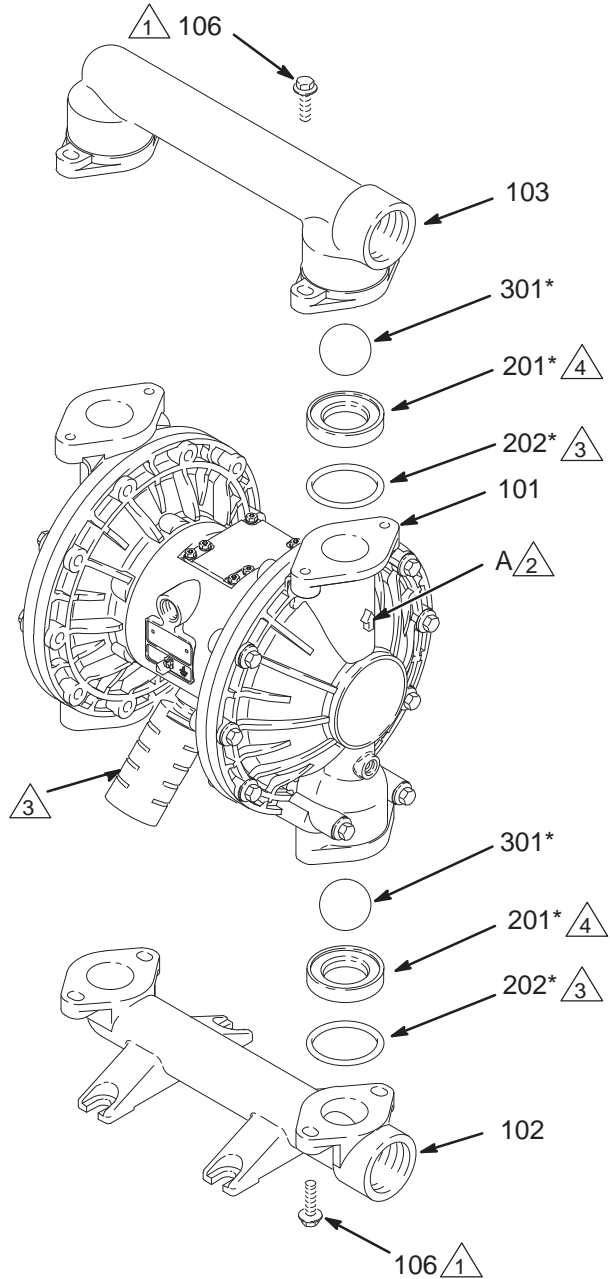

FIG. 10
3. Using a 13 mm socket wrench, remove the four bolts (106) holding the outlet manifold (103) to the fluid covers (101). See FIG. 10.
4. Remove the o-rings (202, *not used on some models*), seats (201), and balls (301) from the manifold.
5. Turn the pump over and remove the inlet manifold (102). Remove the o-rings (202, *not used on some models*), seats (201), and balls (301) from the fluid covers (101).
2. Reassemble in the reverse order, following all notes in FIG. 10. Be sure the ball checks are assembled **exactly** as shown. The arrows (A) on the fluid covers (101) **must** point toward the outlet manifold (103).
- ⚠2 Arrow (A) must point toward outlet manifold (103).
- ⚠4 Beveled seating surface must face ball (301).